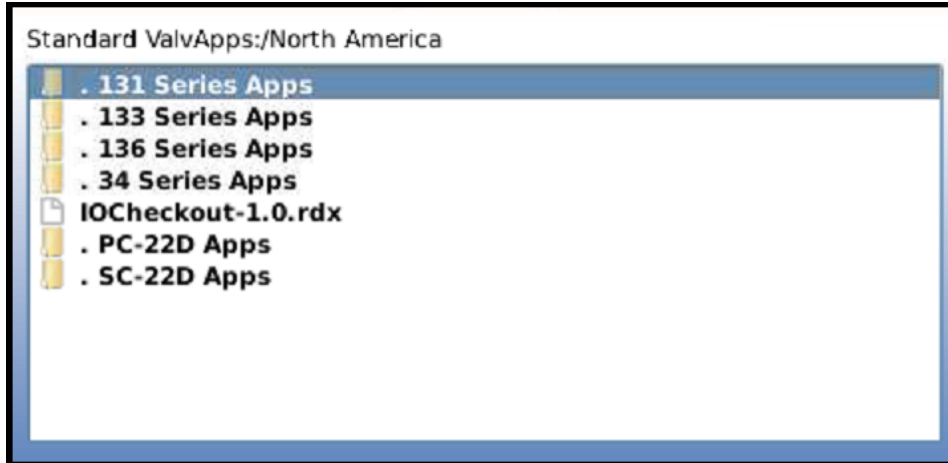

Figure 5.3
- b. Highlight the desired valve series (131 Series Apps for example) and press “OK” as shown in **FIGURE 5.3**.
- a. Highlight the desired valveApp (131-Flow-Mag-V2.1.rdx for example) and press “OK” as shown in **FIGURE 5.3**.